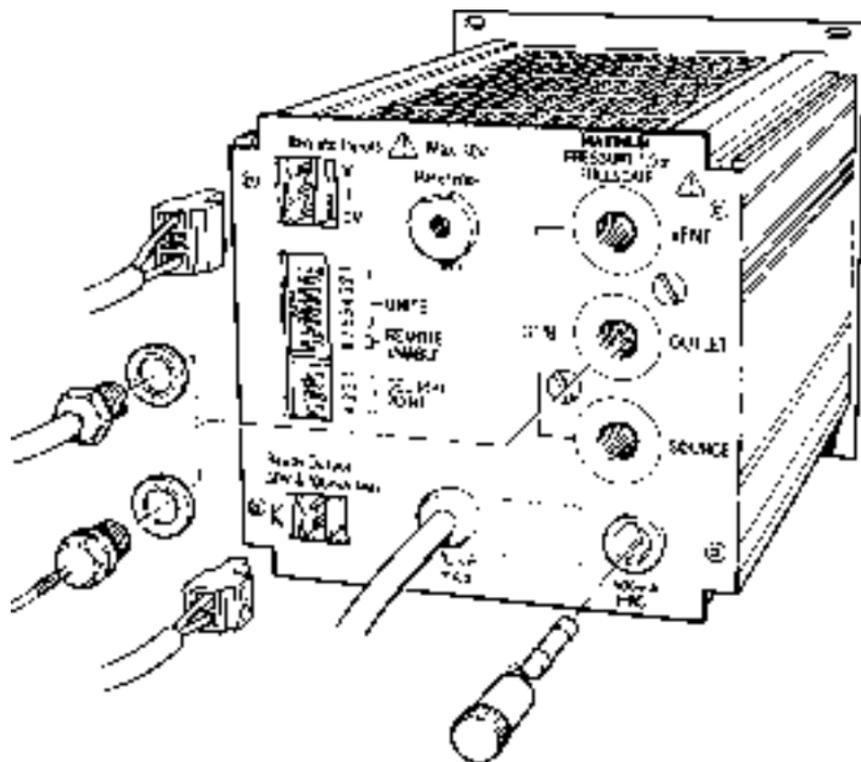

Figure 2-1 Rear Panel Connections
### 2.2 Source/Outlet Connections (Figure 2-1)
The common front and rear pressure outlet ports should have a blanking plug fitted when not in use. All other the connections to the instrument are on the rear panel. Figure 2-1 shows the rear panel pressure and electrical connections.
### 2.3 Electrical Connections (Figure 2-1)
A.C. power is supplied to the instrument through a captive power supply cable. Figure 2-1 shows the cable and the related power supply fuse.
#### 2.4.1 Procedure (Figure 2-1)